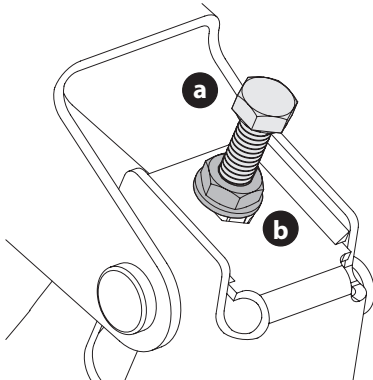

Figure 35
3. Locate the adjustment bolts (a) on the left and right side of the deck (Figure 35).